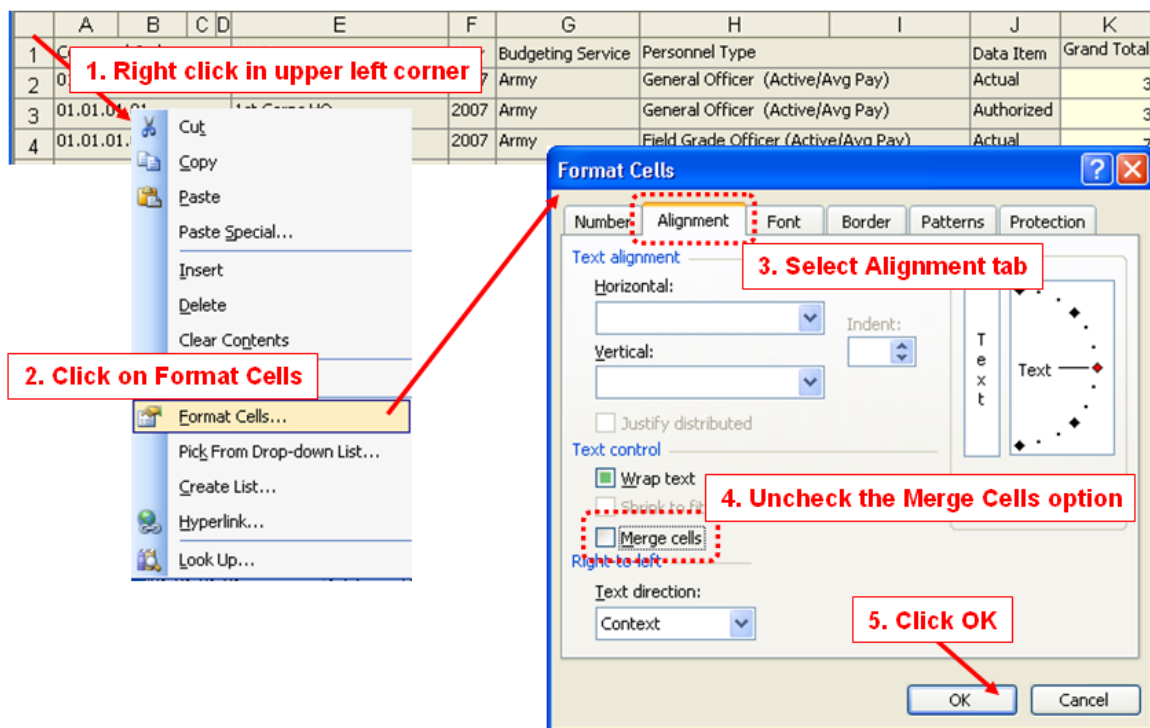

Figure 8-65. Process for Removing All Merged Cells
14. Remove all merged cells by right-clicking in the blank cell in the upper left corner of the worksheet and following the steps illustrated in Figure 8-65.